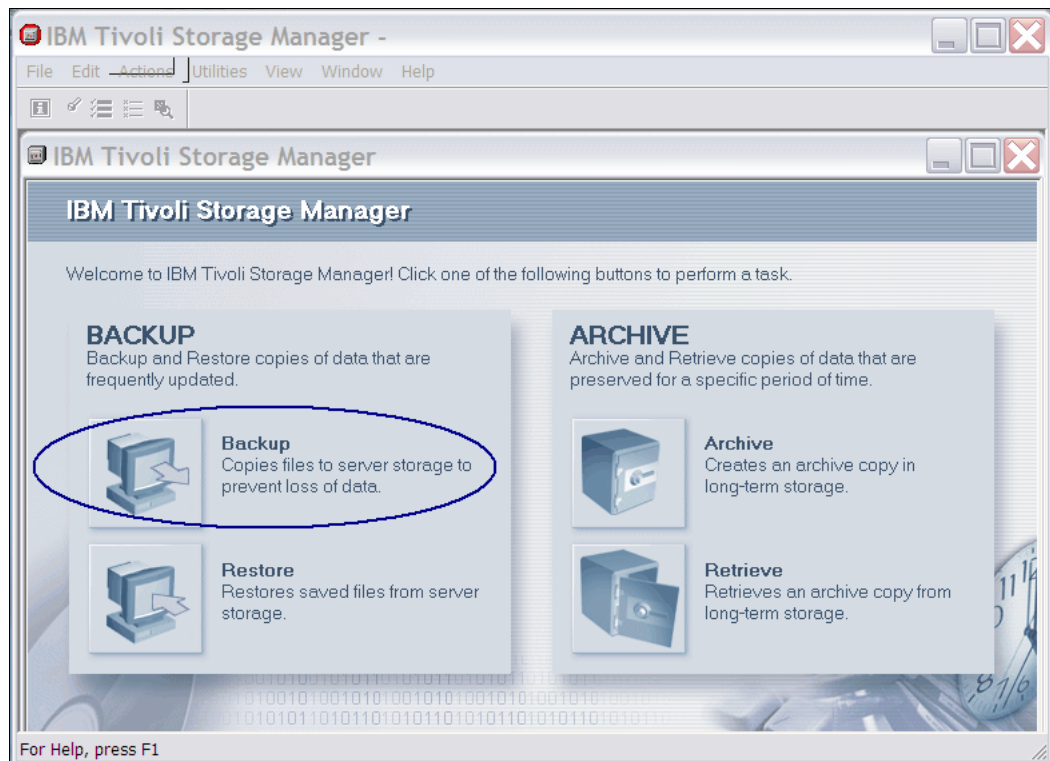

Figure 7-13 Tivoli Storage Manager BA client
Now you can perform a backup using the Tivoli Storage Manager Backup Archive (BA) Client, as shown in Figure 7-13.